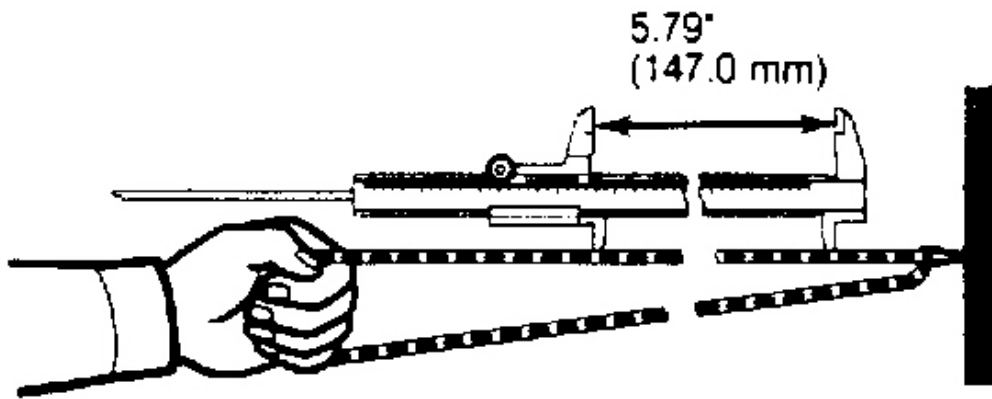

Fig. 2: Checking Timing Chain Stretch
2. Measure length of timing chain with chain fully stretched. Maximum distance between 17 links should be 5.79" (147.0 mm). See **Fig. 2**.